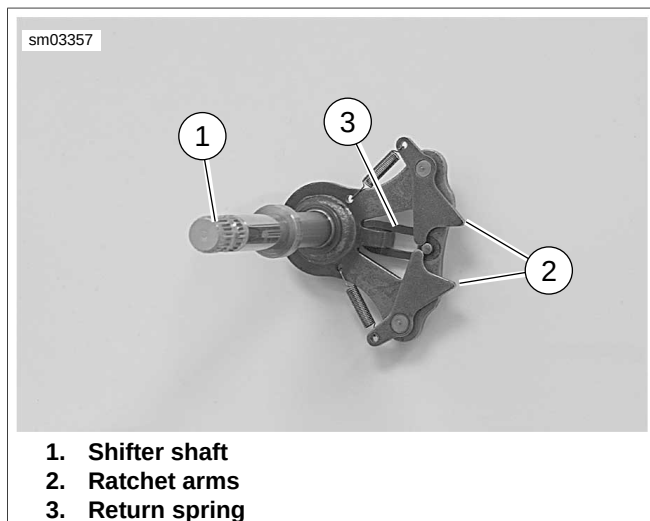
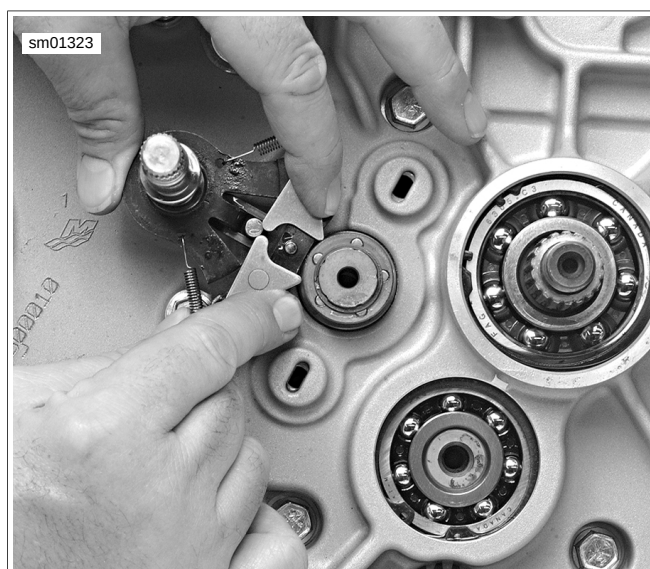

Figure 5-52. Shifter Shaft Assembly
Figure 5-53. Removing Shifter Shaft Assembly
10. See Figure 5-52 and Figure 5-53. Depress ratchet arms (item 2, Figure 5-52) in order to clear the shifter drum, and remove shifter shaft assembly from left crankcase half.